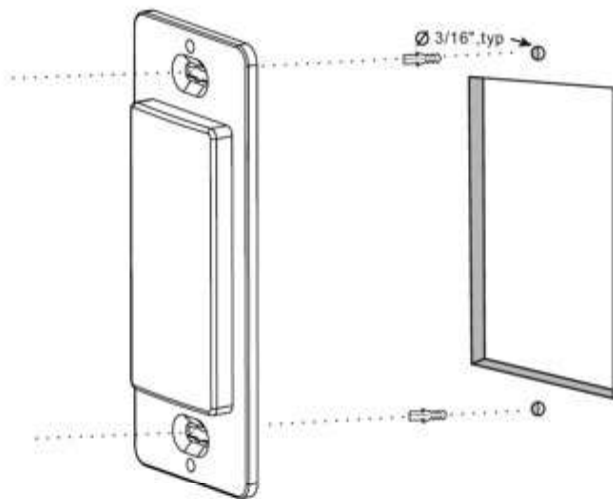

FIGURE 2: MOUNTING HOLES
5. Temporarily place the control over the hole and mark mounting screw hole locations. Figure 2.